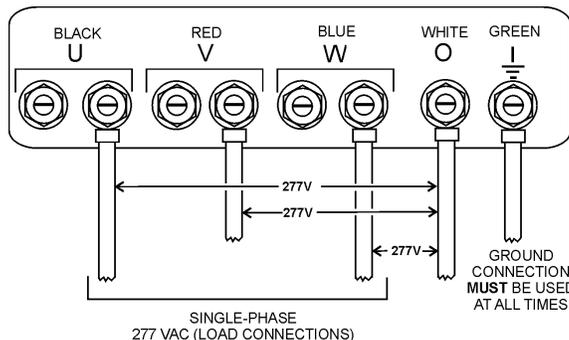

Figure 26. UVW Terminal Lugs 1Ø-277V Connections
2. Connect the load wires to the UVW terminals as shown in Figure 26.